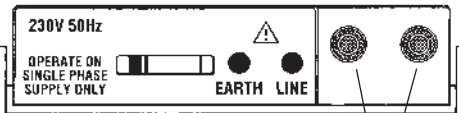

Fig. 1
4.1 Instrument layout - see Fig 1 on page 3.